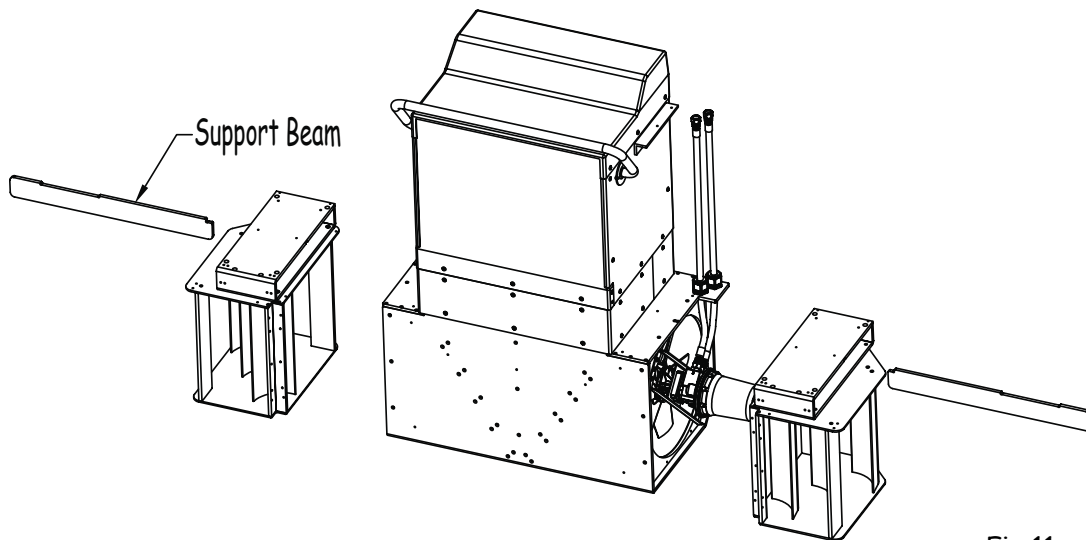

Fig 11
11. Remove each front base support beam (Fig 11).